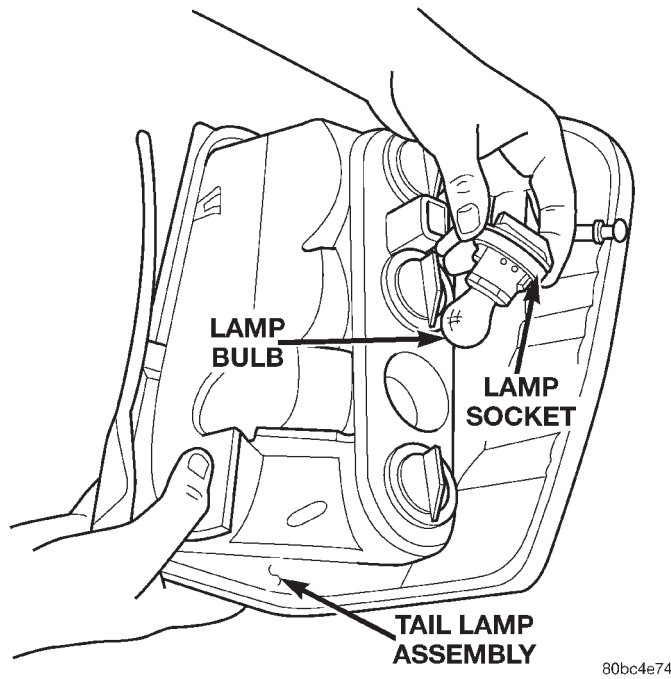

Fig. 20 Tail Lamp Socket Installation
(2) Install the lamp socket in the tail lamp assembly (Fig. 20).